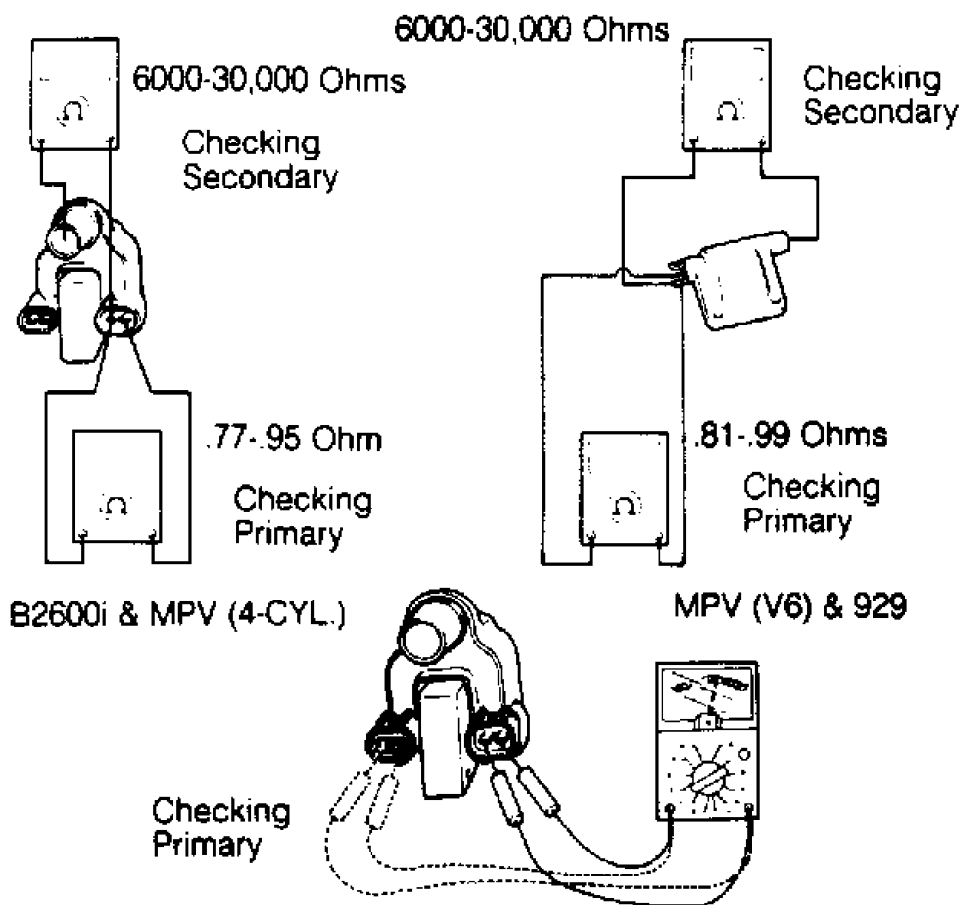

Fig. 5: Checking Coil (B2600i & MPV Others Are Similar)
1) Remove primary and secondary leads from ignition coil. Using ohmmeter, check primary resistance between positive and negative terminals of coil. See Fig. 5. Resistance should be as specified in IGNITION COIL RESISTANCE TABLE. If resistance is not as specified, replace ignition coil.
2) Check secondary resistance between (positive) terminal and coil tower. See Fig. 5. See IGNITION COIL RESISTANCE TABLE. If resistance is not within specifications, replace coil.